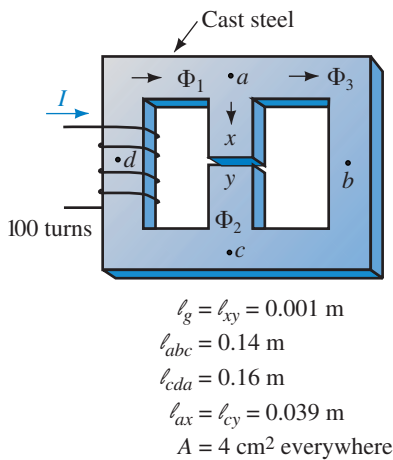

FIGURE 12-53
24. For Figure 12-53, if $\Phi_g = 80 \mu\text{Wb}$, find I .
25. If the circuit of Figure 12-53 has no gap and $\Phi_3 = 0.2 \text{ mWb}$, find I .